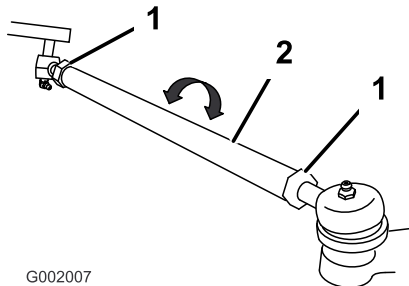

Figure 55
5. If the measurement does not fall within the specified range, loosen the jam nuts at both ends of the tie rods (Figure 55).